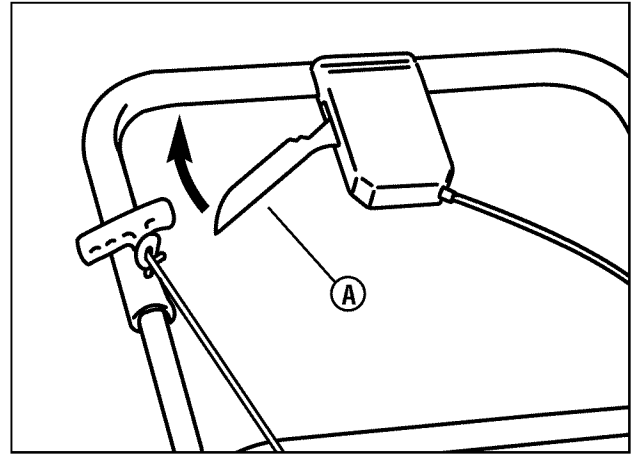

Figure 14: Operating the front wheel drive system
2. **Models SP22675 & NSP22675:** Pull the drive lever (**A, Figure 14**) completely back. The drive system is now engaged.